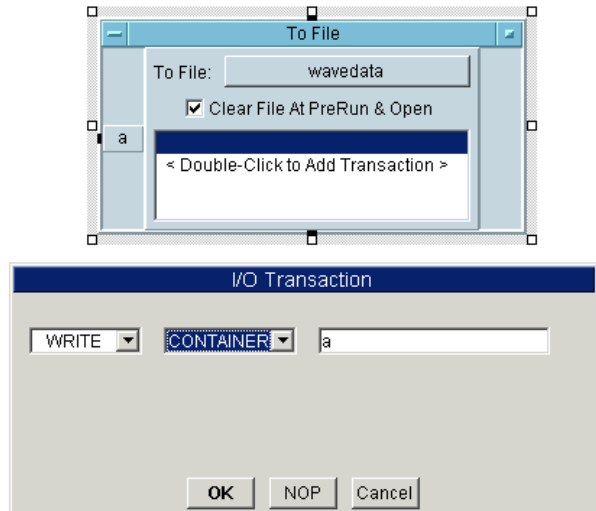

Figure 49 Choosing an I/O Transaction
- 3 Double-click on the area labeled **Double-Click to Add Transaction** to write the data. The dialog box in Figure 49 appears. Click the **TEXT** field (or its arrow) to show the drop-down list of data types and click **CONTAINER**. Click **OK**. Notice that when you click **OK** in the **I/O Transaction** dialog, an input pin **a** is automatically added to the **To File** object.